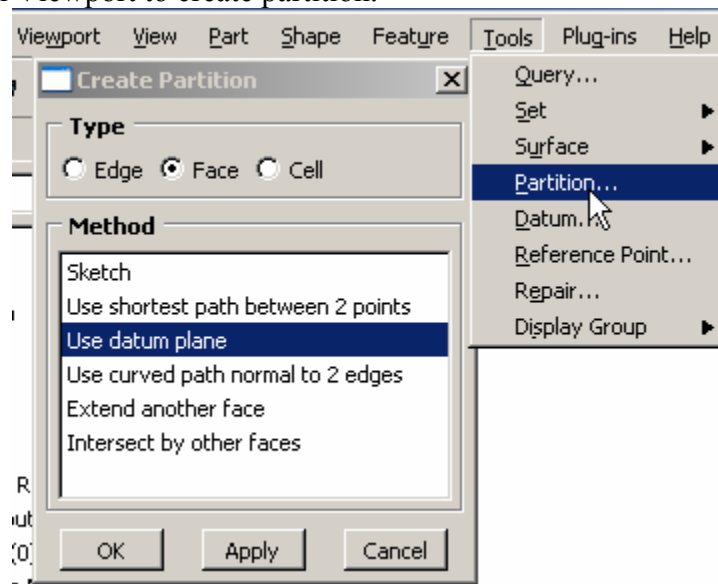

Figure W-11
8. Choose partitioning tool as shown in Figure W-11 and press **Ok**. Select the datum plane from Viewport to create partition.